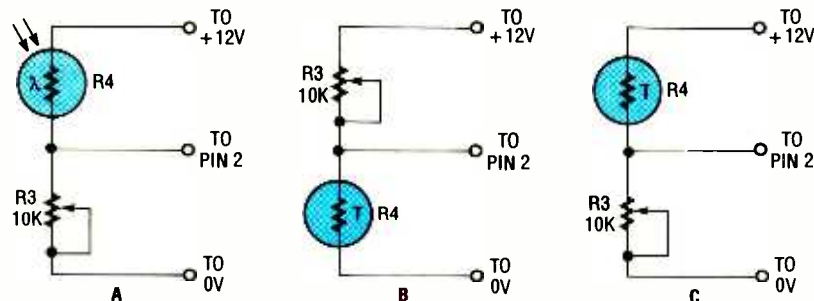

Fig. 3. These are some alternative input circuits for Fig. 2 that activate due to (a) light, (b) low temperature, and (c) high temperature.
**Construction.** The author's prototype of the Whistle Switch was assembled on a printed-circuit board, measuring about 4 by 3 $\frac{1}{4}$  inches. A template of the author's printed-circuit layout is shown in Fig. 3. Once you've etched and drilled your circuit board, clean the copper traces thor-
Fig. 3. The author's prototype of the Whistle Switch was assembled on a printed-circuit board, measuring about 4 by 3/4 inches. A template of the author's printed-circuit layout is shown here full size.